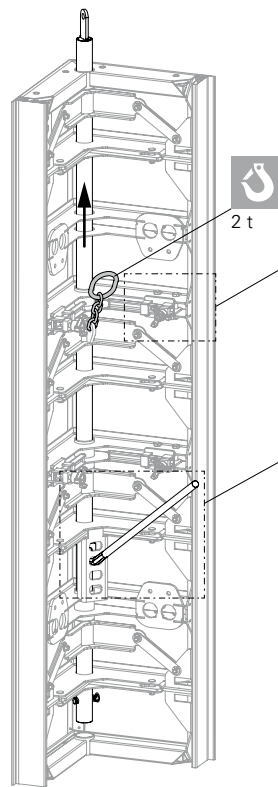

Fig. A11.04
1. Remove tie rods of the closing formwork (1).
2. Loosen wingnut on the positioning waler and push the slider back - 4x. (Fig. A11.04 + A11.04a)
4. Attach crane lifting gear to the load-bearing point: (Fig. A11.04)
6. Press formwork lever downwards. The tube slides upwards and the striking position has been adjusted. (Fig. A11.04 + A11.04b + A11.04c)